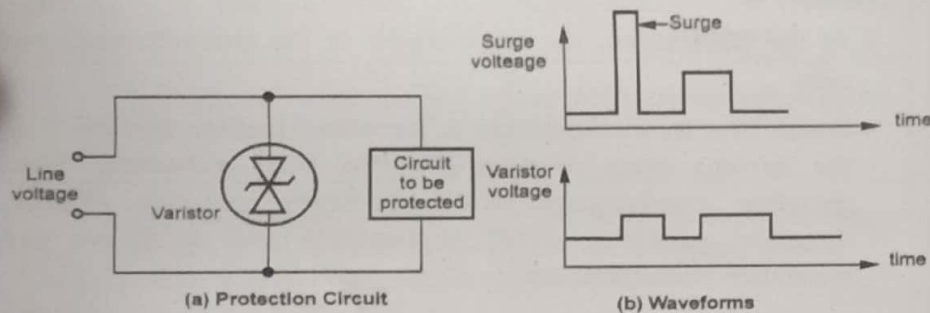

Fig. Q.17.3 Application of varistor
- The main application of varistor is the protection of circuits from transients, spikes, surges and impulse voltages. The use of varistor for protection is shown in the Fig. Q.17.3.